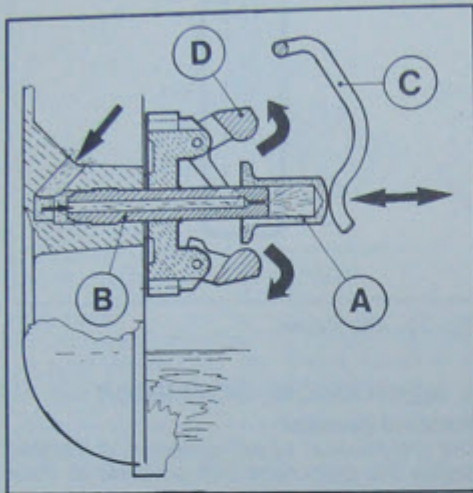

Fig. 35
A plastic sleeve (A - Fig. 35) is actuated by two centrifugal weights (D), the plastic sleeve